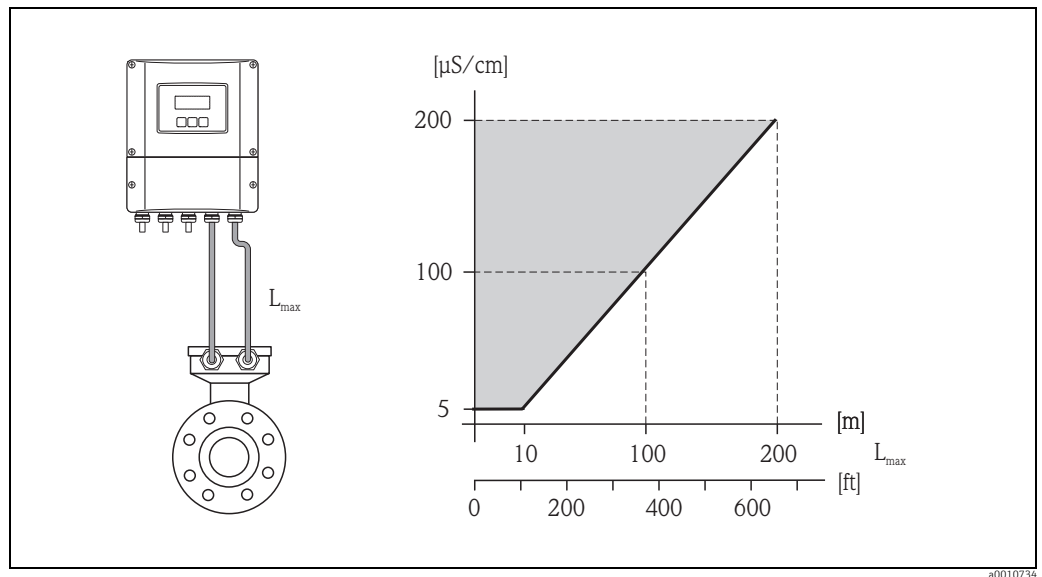

Fig. 16: Permitted lengths for connecting cable in remote version, as a function of the conductivity of the fluid
- The permissible cable length L_{\max} depends on the fluid conductivity (\rightarrow Fig. 16).